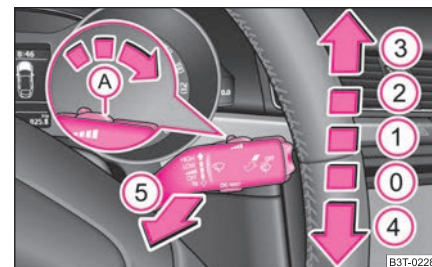

Fig. 58 Windscreen wiper lever
The windscreen wiper lever ⇒ fig. 58 has the following positions:
- If the slower ② or the faster ③ wiper setting is switched on ⇒ page 65, fig. 58 and the vehicle speed decreases to below 4 km/h, the lower wiper step is switched on automatically. At a speed increase of more than 8 km/h the previous wiper setting is established again.
The headlights are being cleaned after the windscreen has been sprayed for the first time and fifth time, the low beam or main beam are switched on and the windscreen wiper lever was held in the position ⑤ ⇒ page 65, fig. 58 for about 1 second.
- Then press the windscreen wiper lever in the position ④ ⇒ page 65, fig. 58 within 10 seconds - the wiper arms move into the service position.